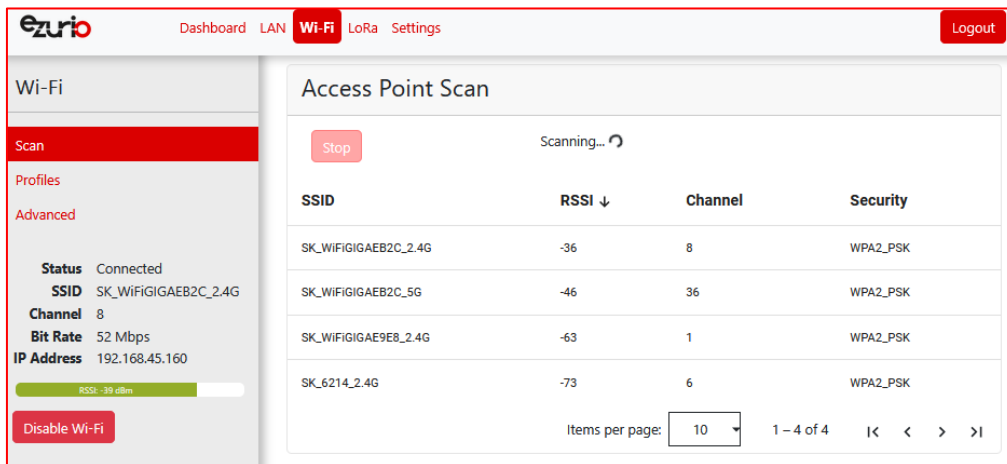

Figure 22: Scan function
1. **Connect to a Wi-Fi network** – click **Scan** to scan for nearby Wi-Fi networks. Scanning continues until you click **Stop** or click on one of the listed scan results (Figure 22).